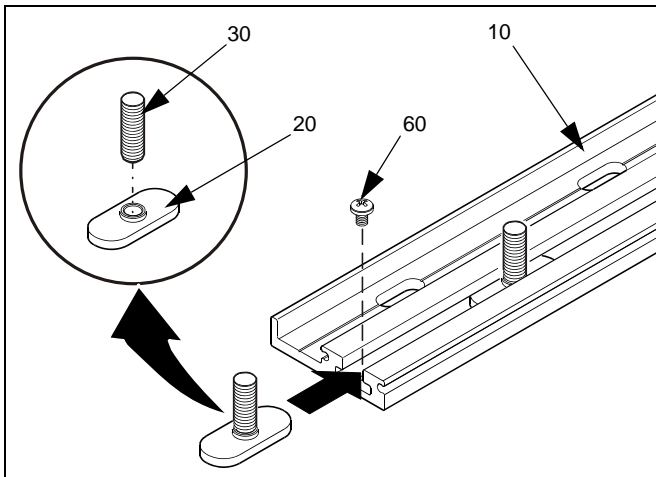

Figure 3: Install T-Slot Nuts on Lateral Shift Bracket
1. Assemble four threaded studs (30) to four T-Slot nuts (20).
2. Slide T-Slot nut assembly into bracket (10) channel.
3. Install four self tapping screws (60) into bracket (10) ends. (see Figure 3)